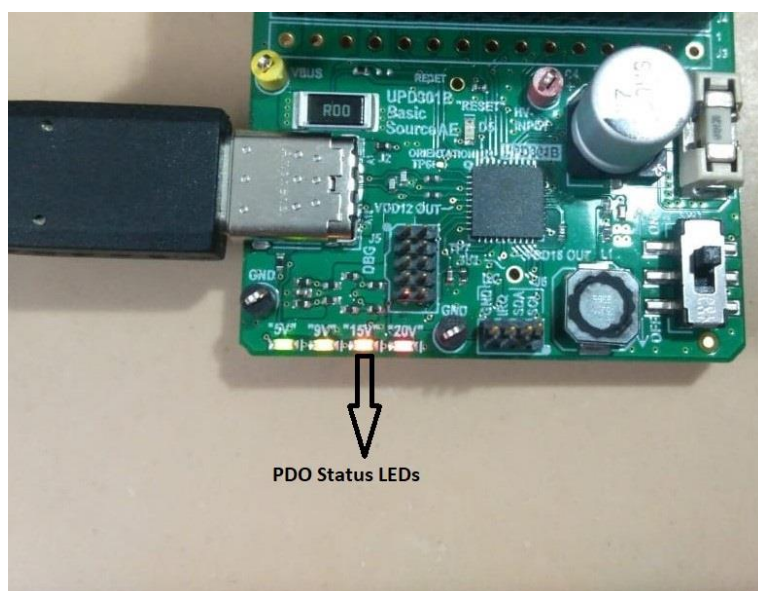

Figure 7.1 PDO Status LEDs after device attach.
4. Once an explicit power contract negotiation is in place, the device starts charging. The PDO status LEDs will turn on indicating the negotiated voltage as shown in Figure 7.1.
5. In our case, Microchip's UPD301C Basic sink connected in the Port has requested 20V and the status of PDO status LEDs is shown in Figure 7.1.